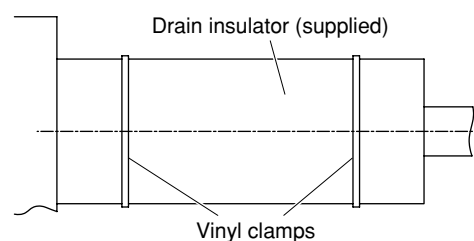

Fig. 3-54
- (2) After checking the drainage, wrap the supplied packing and drain pipe insulator around the pipe. (Fig. 3-54)